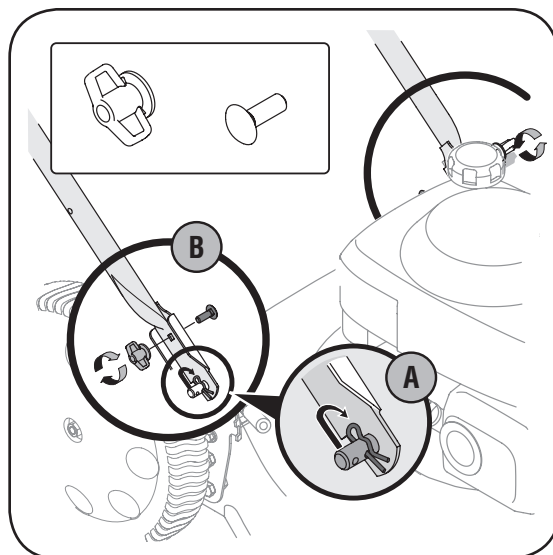

Figure 3-3
- Remove hairpin clip from this hole. Using a pair of pliers, insert hairpin clip into the other hole on the weld pin. Repeat on other side. See Figure 3-3.
- Place one carriage bolt (found in the hardware pack included with your unit) in the upper hole of the right handle mounting bracket from the inside outward. See Figure 3-3. Secure with one wing nut. Repeat process on the left side.